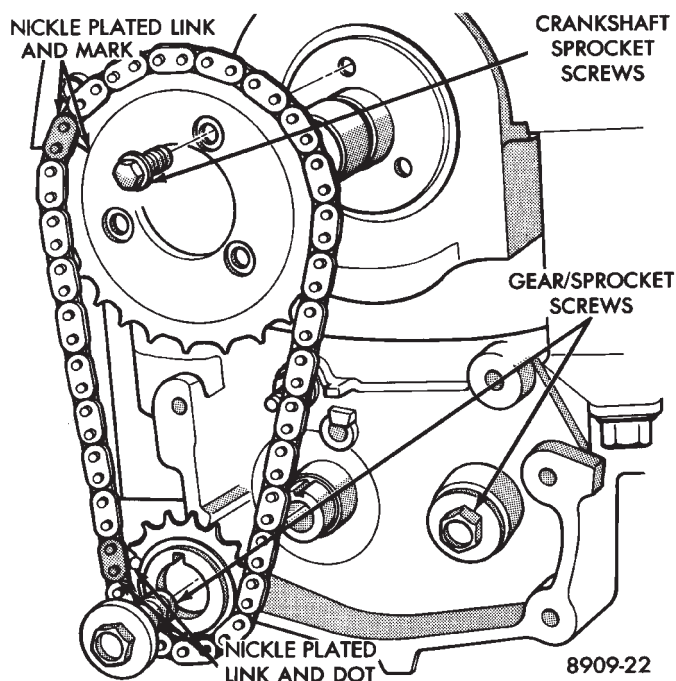

Fig. 17 Drive Chain and Sprockets
(2) Remove balance shaft gear and chain sprocket retaining screws and crankshaft chain sprocket torx screws. Remove chain and sprocket assembly. (Fig. 17)
(7) Place balance shaft sprocket into the timing chain (Fig. 17) so that the timing mark on the sprocket (yellow dot) mates with the (lower) nickel plated link on the chain
(8) With balance shaft keyways pointing up 12 o'clock) slide the balance shaft sprocket onto the nose of the balance shaft. The balance shaft may have to be pushed in slightly to allow for clearance.